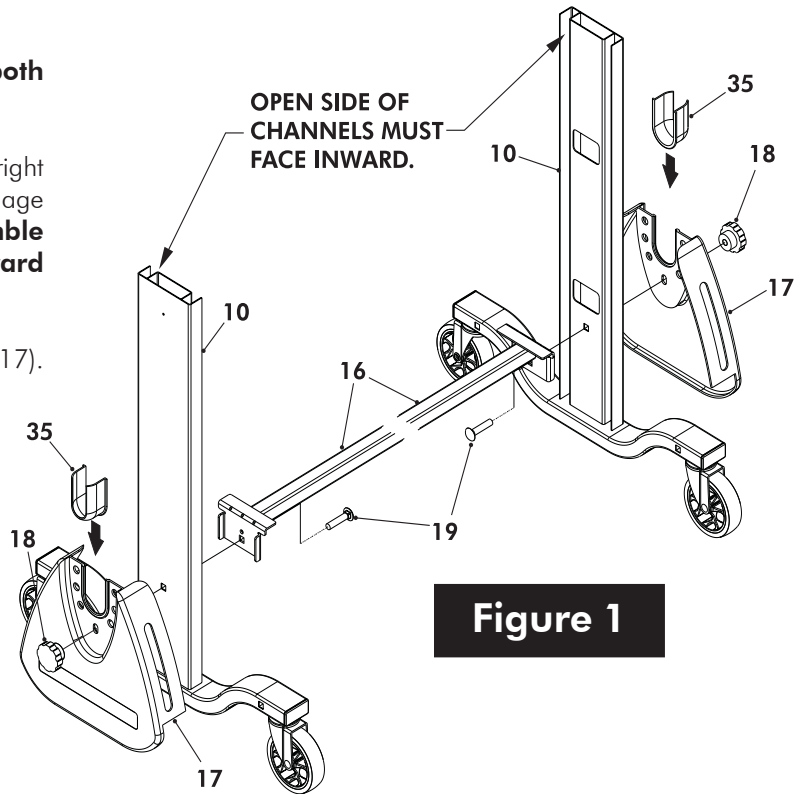

Figure 1
1. Attach Cross Support (#16) and Shroud (#17) to Upright Assemblies (#10), as shown in Figure 1, using two carriage bolts (#19) and two Hand Knobs (#18). **Note: Assemble "Upright Assemblies" as shown with channels toward inside. Tighten Hand Knobs securely.**
2. Slide Ball Holders (#35) into groove in top of Shroud (#17). See Figure 1.